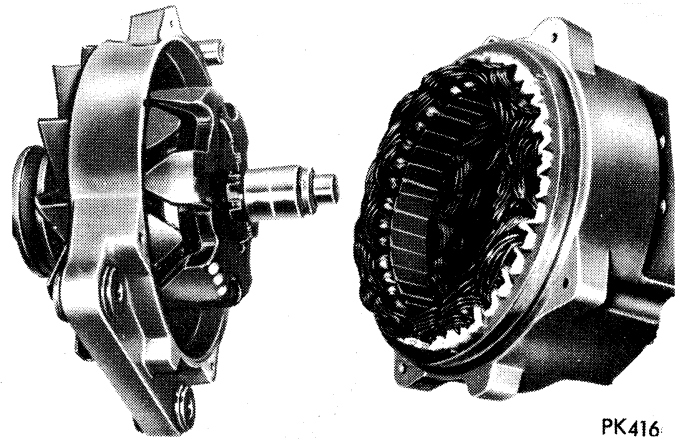

Fig. 3—Alternator Assembly (100 Amp)
This alternator (Fig. 3) has twelve (12) built in silicon rectifiers, that convert AC current into DC current. Current at the "Output" terminal is DC.